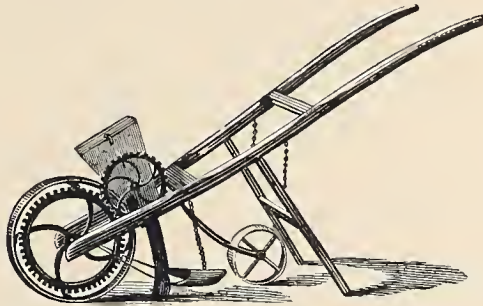

Fig. 335. — Seed-Sower, No. 1.
*Seed-Sower, No. 1, or Improved English Drill*, represented by *Fig. 335*,